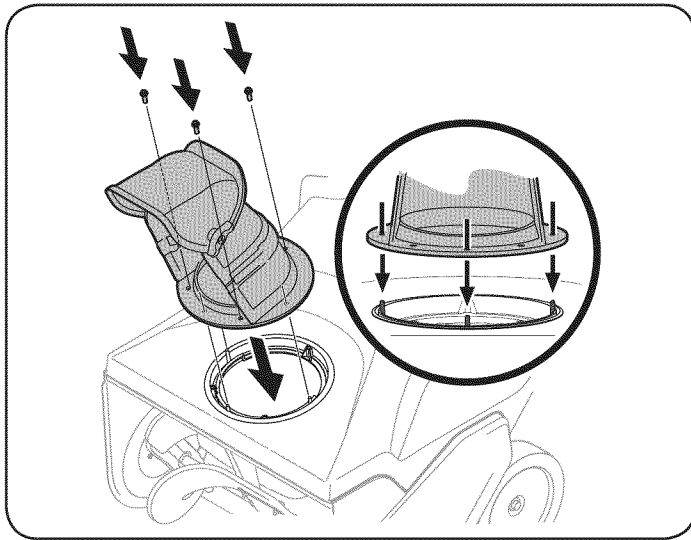

Figure 5
2. Align the holes in the chute base with the holes in the lower chute and secure with the previously removed hex washer screws. See Figure 5.